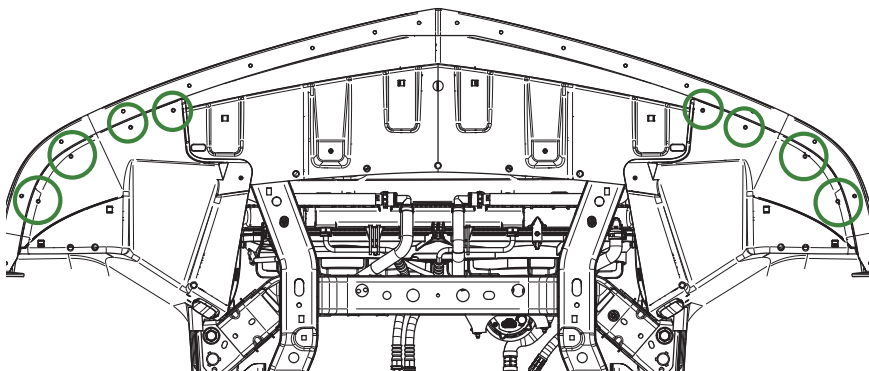

Figure 3 - Removing the T20 Torx Screws
7. Use a T20 tool to remove all screws under the bumper cover, in front of the wheels, circled **green** in Figure 3. There are four per side.